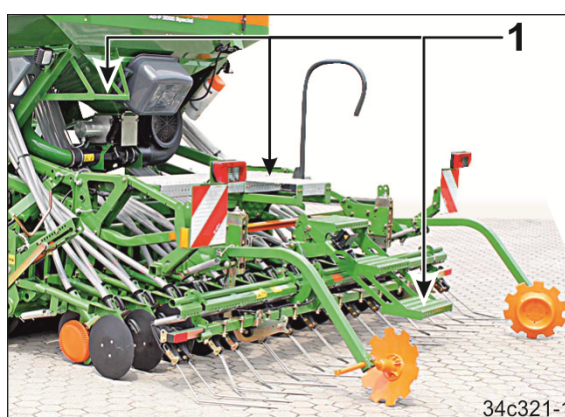

Fig. 232
6. Climb into the hopper using the steps, the loading board and the ladder (Fig. 232/1).